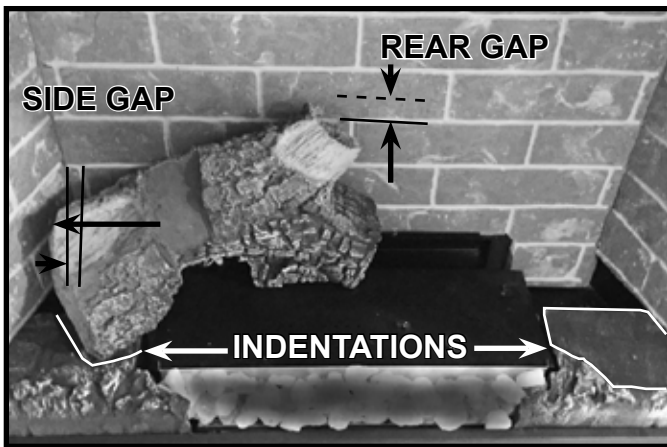

Figure 4. Rear Left Log Installed
The log pins, along with the indentations in the hearth components, will aid in correctly positioning the two rear logs and small burner log. The indentations are shown in Figure 4.
Additionally, the rear left log and rear right log are located by indentations in the right and left hearth components. See Figure 4.
1. Remove large rear left log from the packaging and install the log by locating it on the back left log pin(s). The left side of the log will reside within the indentation in the left hearth component. See Figure 4.
Note: SL-3X models do not utilize hearth indentations. See Figure 4.
SL-7X and SL-9X Models: The rear left log will be positioned to maintain about a 1/4 inch rear gap between the rear left log and the back wall refractory. There will be about a 3/4 inch side gap between the left end of the log and left panel. See Figure 4.
SL-3X and SL-5X Models: The rear left log will be positioned to maintain about a 1/4 inch rear gap between the rear left log and the back wall refractory. The rear left log will contact the left refractory panel (no side gap). See Figure 4.